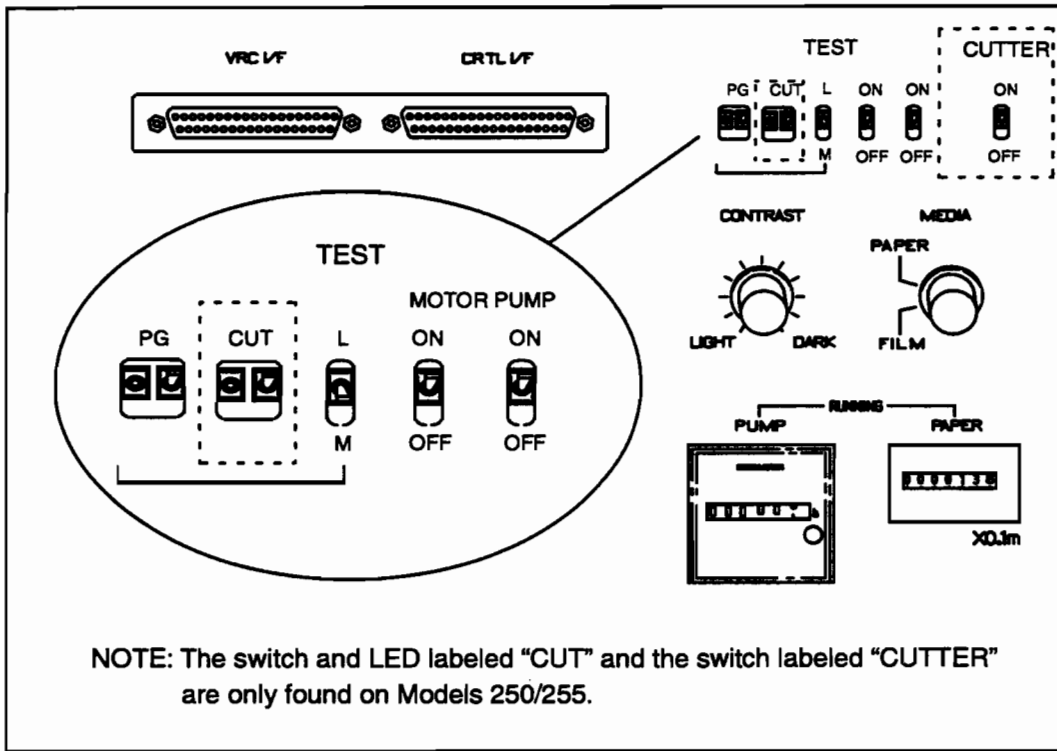

Figure 8-10. Test Panel
8-51. See Figure 8-10 for an illustration of the test panel features.
1. Turn the plotter OFF (O).
3. Turn the plotter ON (I).
5. Press and release the PG switch on the plotter test panel once. See Figure 8-10. The LED beside the switch will light. The test will run continuously until the PG switch is pressed again.